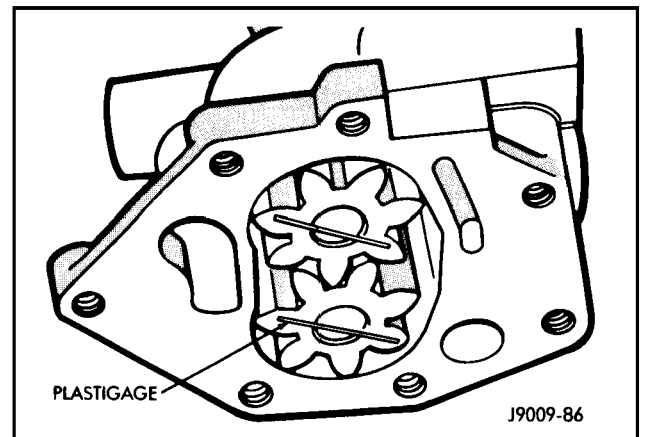

Figure 7-38
- a. Place a strip of Plastigauge across the full width of each gear (Figure 7-38).